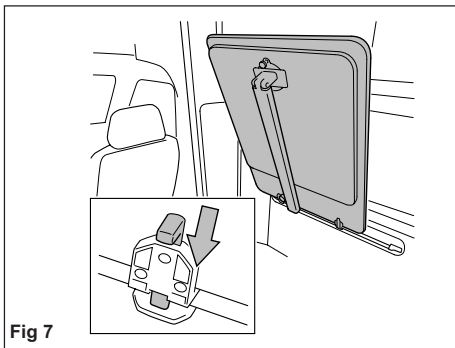

Fig 7
- The table is mounted in the second row passenger seating area. Hook the table onto the rail under the window and lock in position by sliding the two catches into position (Fig 7).